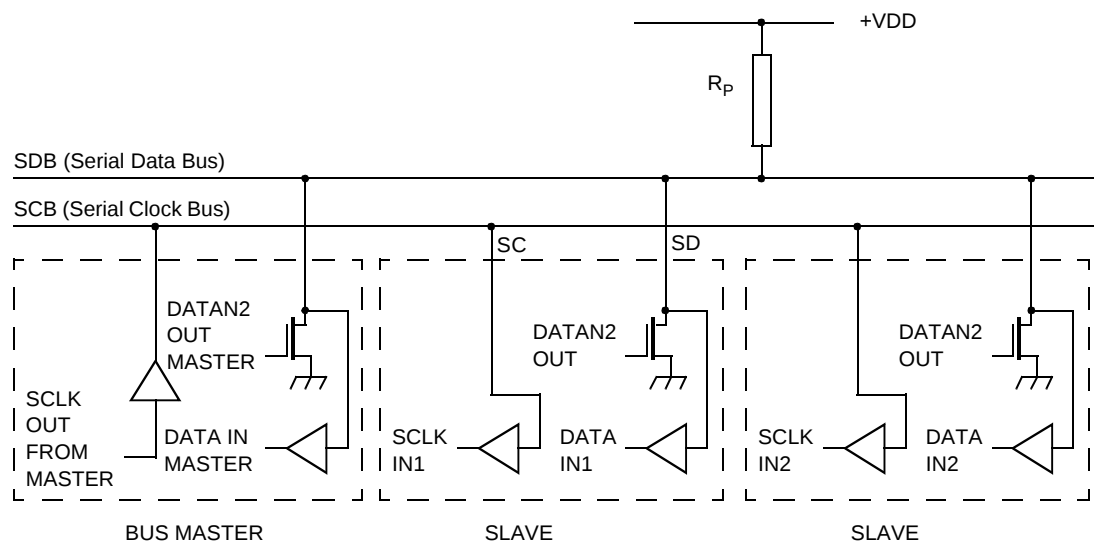

Figure 19: Connection of Devices to the Bus
The CH7004 contains a standard I²C control port, through which the control registers can be written and read. This port is comprised of a two-wire serial interface, pins SD (bi-directional) and SC, which can be connected directly to the SDB and SCB buses as shown in **Figure 19**.
The Serial Clock line (SC) is input only and is driven by the output buffer of the master device (also shown in **Figure 19**). The CH7004 acts as a slave, and generation of clock signals on the bus is always the responsibility of the master device. When the bus is free, both lines are HIGH. The output stages of devices connected to the bus must have an open-drain or open-collector to perform the wired-AND function. Data on the bus can be transferred up to 400 kbit/s.
The electrical specifications of the bus devices' inputs and outputs and the characteristics of the bus lines connected to them are shown in **Figure 19**. A pull-up resistor (R_P) must be connected to a $5V \pm 10\%$ supply. The CH7004 is a device with input levels related to V_{DD} .